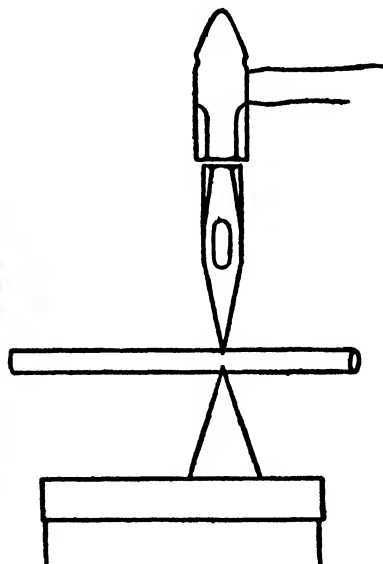

FIG. 14
6. If tool steel, or wrought-iron over  $\frac{3}{8}$ " in diameter, is to be cut, place the stock on the edge of the anvil where the cut is to be made and set the cutter on the top of the stock exactly even with the cutting edge of the hardy and strike with the sledge until the stock may be easily broken. Fig. 14.